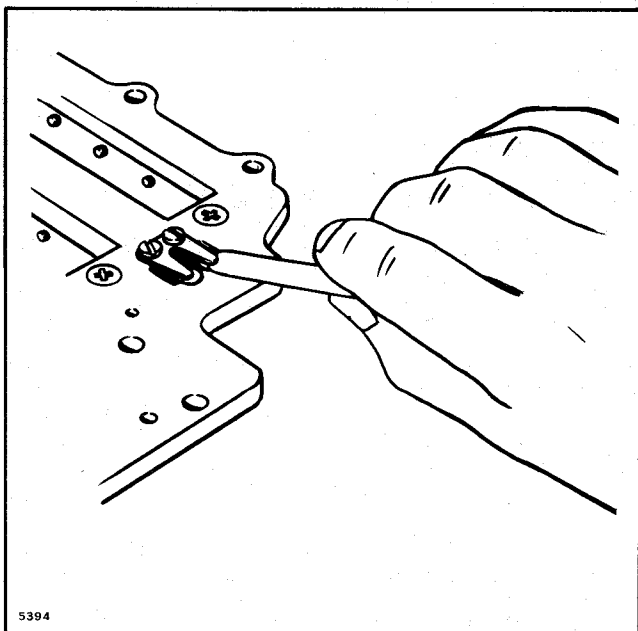

Figure 3-18. Checking Oil Drain Valve
c. Make sure that the leaf valve seats against the leaf plate, and that there is .040" clearance under the leaf stop. See Figure 3-18.